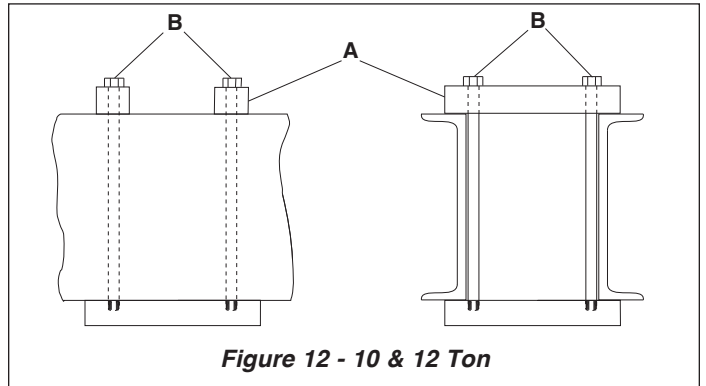

Figure 12 - 10 & 12 Ton
7.1 10 & 12 Ton Models: see Figure 12